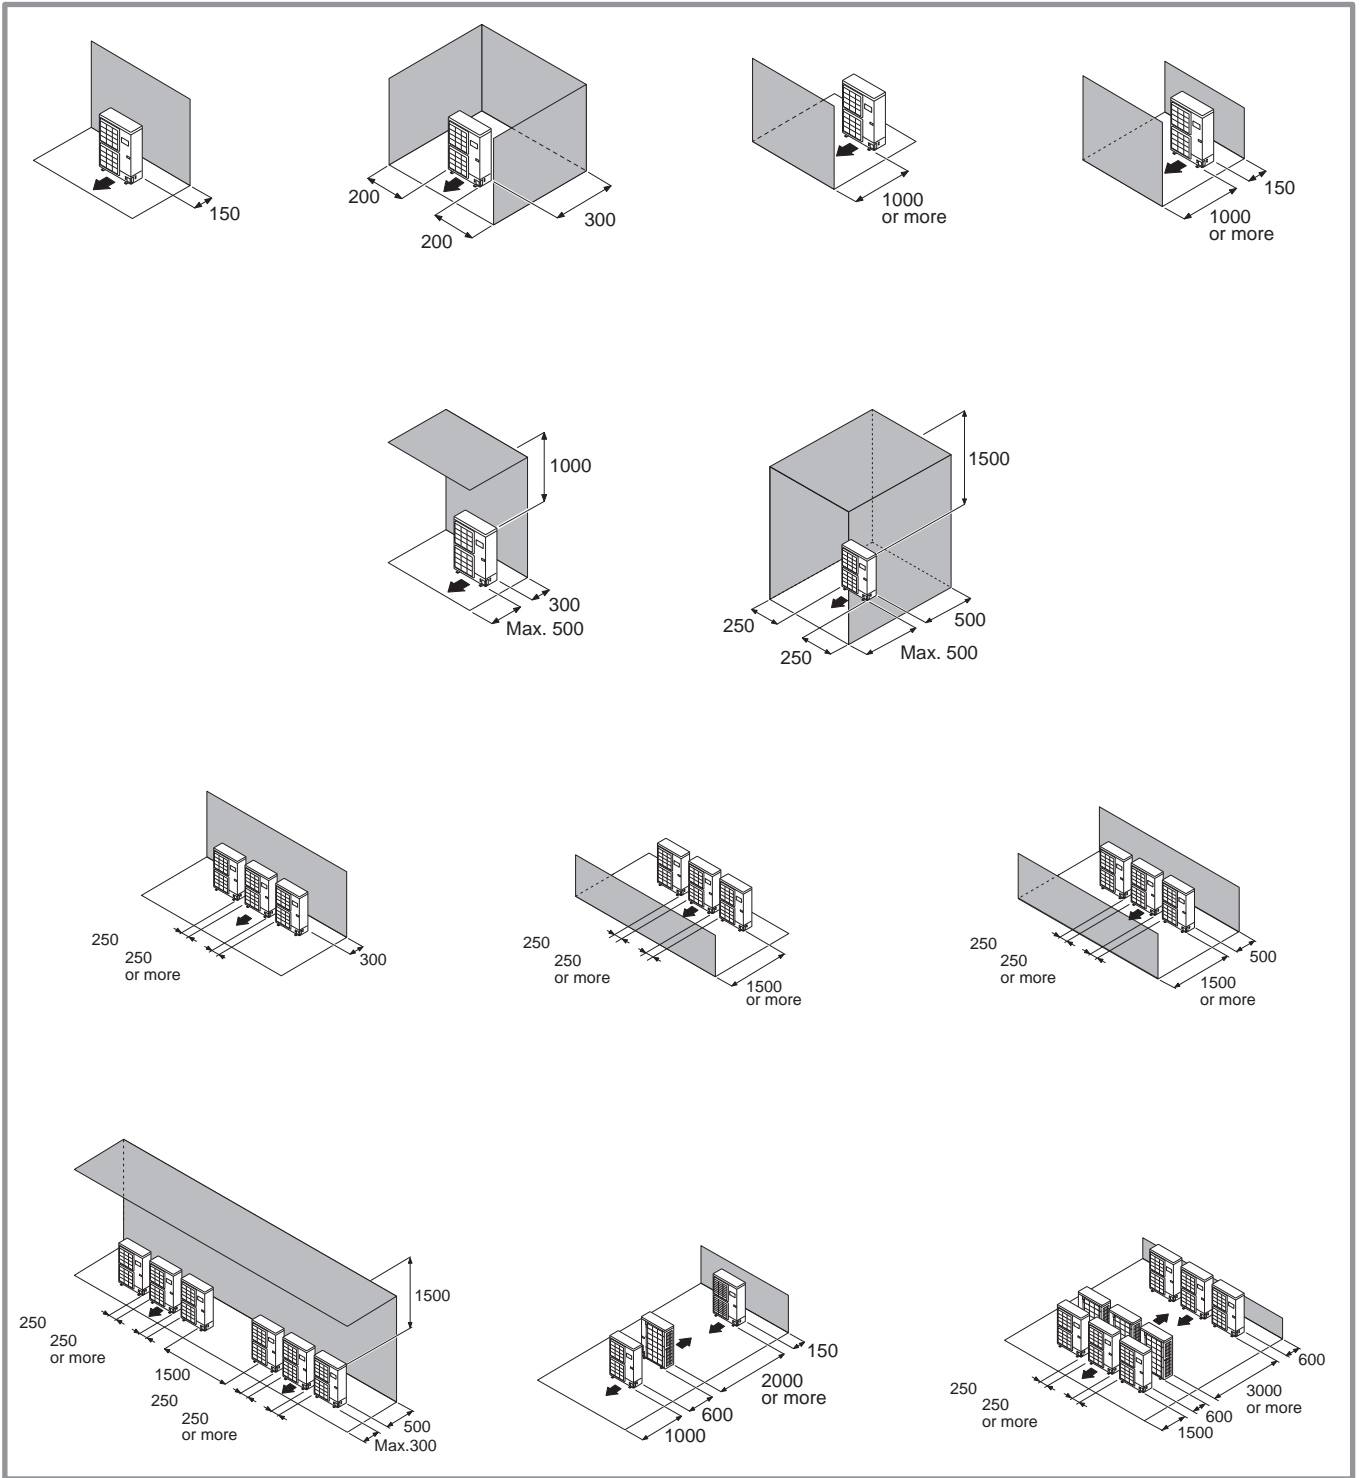

figure 14 - Minimum clearances for the installation around the outdoor unit (all models)
- ☞ **The outdoor unit must only be installed outdoors. If a shelter is required, it must have large openings on all 4 sides and respect the installation clearances (figure 14).**
- the appliance must be fully accessible for the installation and later maintenance work (figure 14).